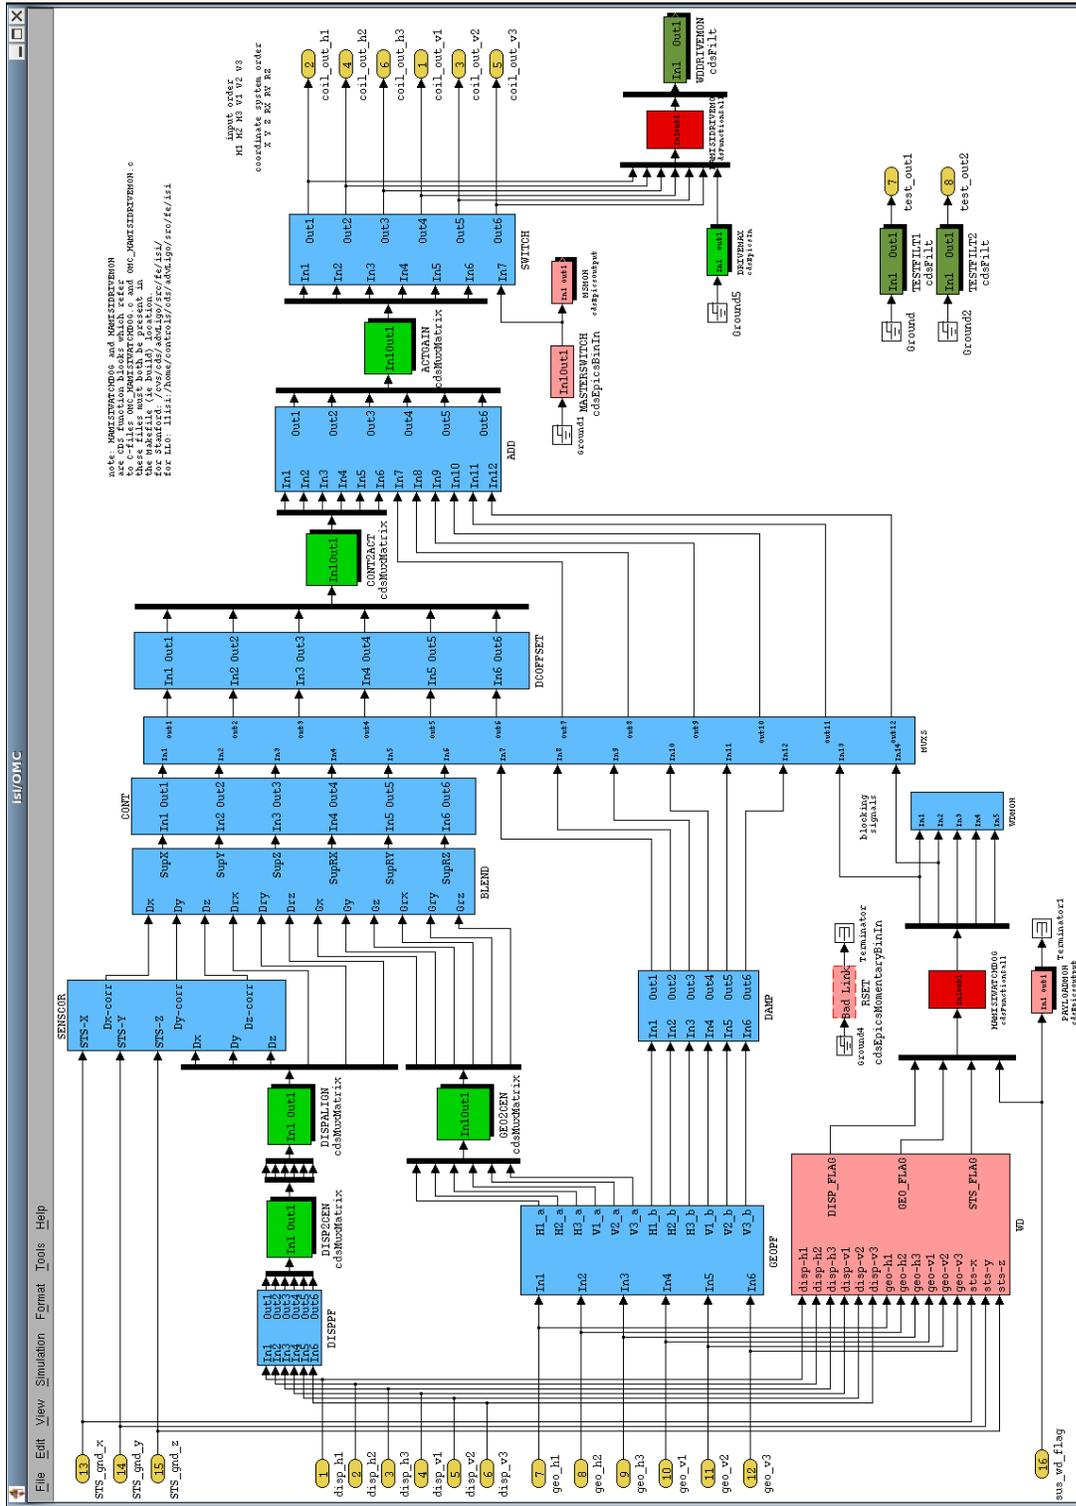

Figure 3: ISI-OMC subsystem diagram in Simulink.
Figure 3 shows the ISI-OMC (HAM ISI) subsystem. The watchdog elements of this subsystem run along the bottom of the screen. After the inputs from the ADC, the first block encountered (WD) converts the raw displacement sensor, geophone, and STS-2 signals into saturation flags. This is done by comparing the absolute value of each signal with the user threshold using a logical greater-than operation (with the ADC signal as the first operand). The result of each logical comparison is added to form a single flag: 0 if there no saturations, non-zero if a saturation has occurred. These two flags, in addition to the payload flag, are then input into the HAMISI-WATCHDOG block, which represents the C-code OMC_HAMISIWATCHDOG.c (described in detail in section 3.2).